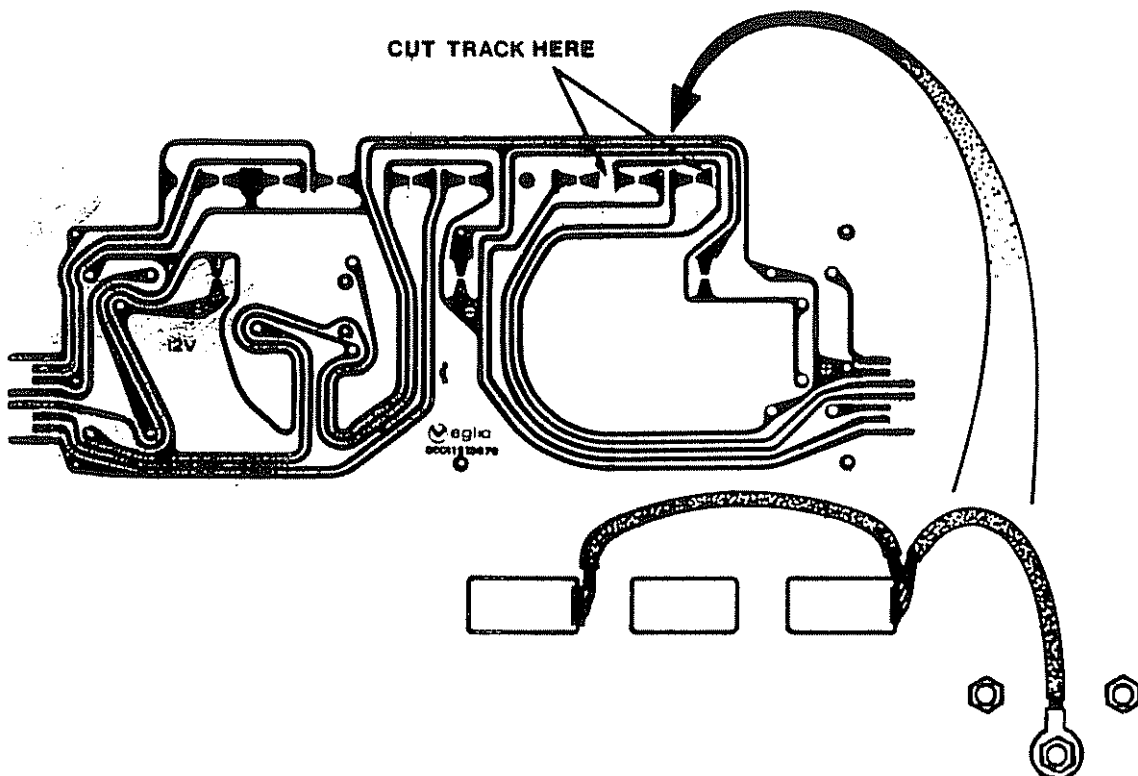

Fig. 3 Veglia printed circuit **changes**
1. Cut the circuit track as shown in fig. 3 and insulate.
2. With two pieces of wire connect the -ve terminal, lower of the group of three, to the RH side contacts (as viewed from rear) of the 'Hazard' and 'Heated Rear Screen' warning lamps. See figure 3 inset for connections.